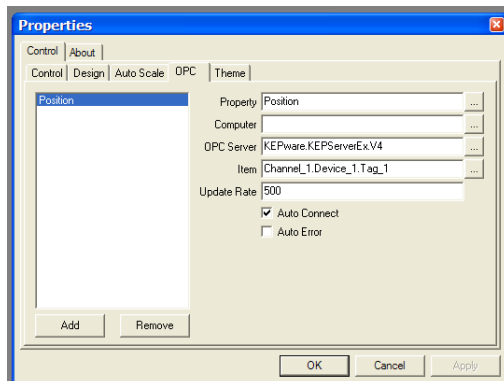

Figure 2
5. Next attach the gauge to a KEPServerEX tag. In this example we have selected a tag in the KEPServerEX SimDemo project. Click OPC / Add / Position. Browse to select KEPServerEX as the OPC Server, and a tag. See Figure 2